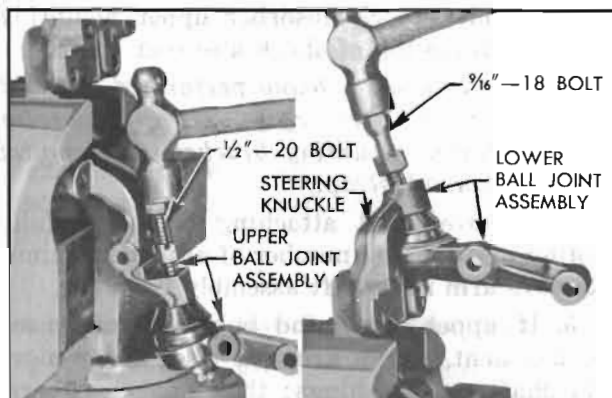

Figure 7-10—Removing Ball Joints from Steering Knuckle
7. Support securely in vise in a manner that will allow solid blows directly on the end of the ball joint stud. See Figure 7-10.